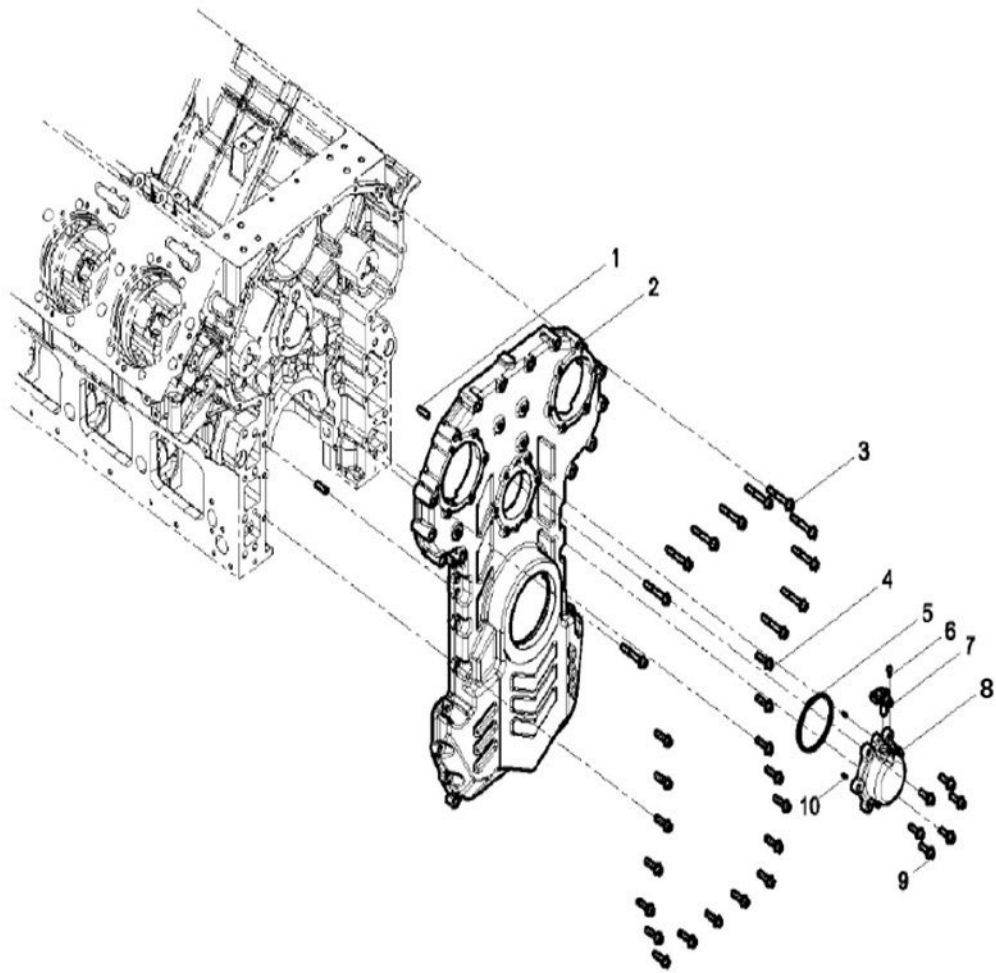

Figure 141.
2. Apply PSI approved silicone sealant on the back of the front cover (Figure 141, Item 2).
3. Insert the two dowel pins (Figure 141, Item 2) if removed.
4. Place the front cover (Figure 141, Item 2) onto the front of the cylinder block and torque down all thirty-nine bolts (Figure 141, Item 3).